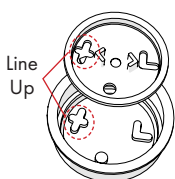

Figure 1
STEP 5 Insert the **Plastic Disc** into the **Membrane**. **FIG 1**